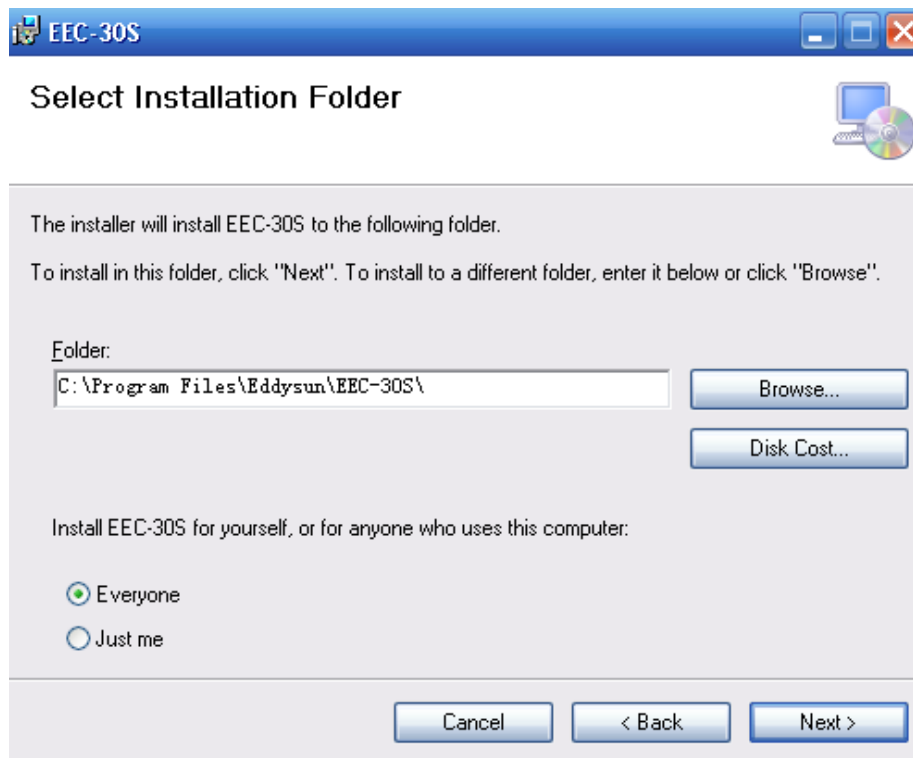

Figure 2-5 Installing paths
3. Press [NEXT] to go on, it will enter the installing path interface. See figure 2-5: